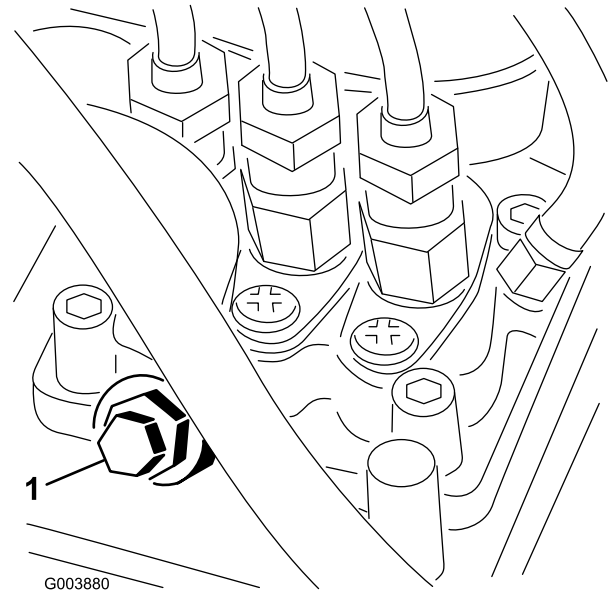

Figure 15
3. Open the air bleed screw on the fuel injection pump (Figure 15).